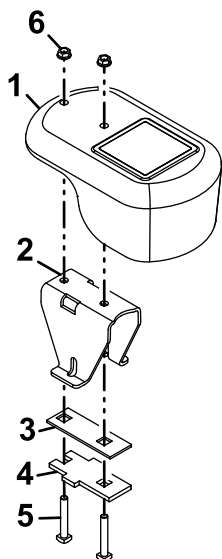

Figure 7
- Use the bolts (3/8 x 2-1/2 inches), nuts to secure the plates to the weight (Figure 7).